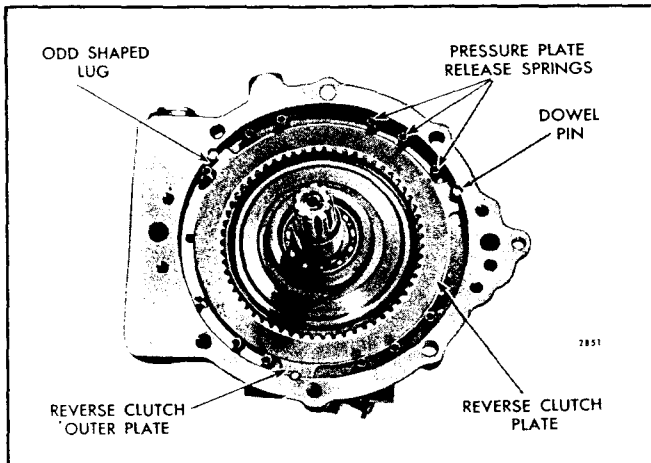

Fig. 23 - Location of Reverse Clutch Release Springs, Clutch Plates and Dowel Pins
12. Refer to Fig. 23 for their location and remove the reverse clutch pressure plate release springs, reverse